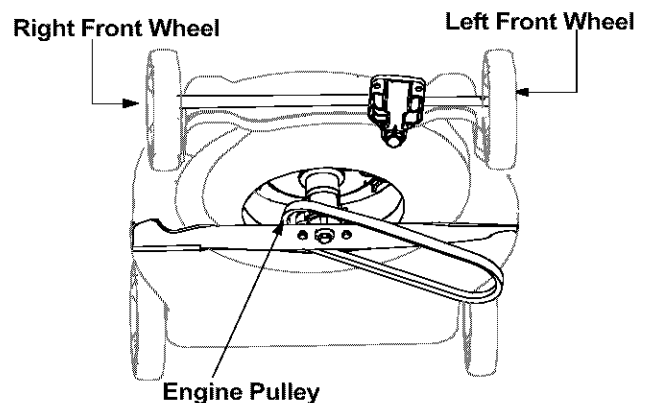

Figure 16
- Slide the belt off the engine pulley and around the blade. See Figure 16.